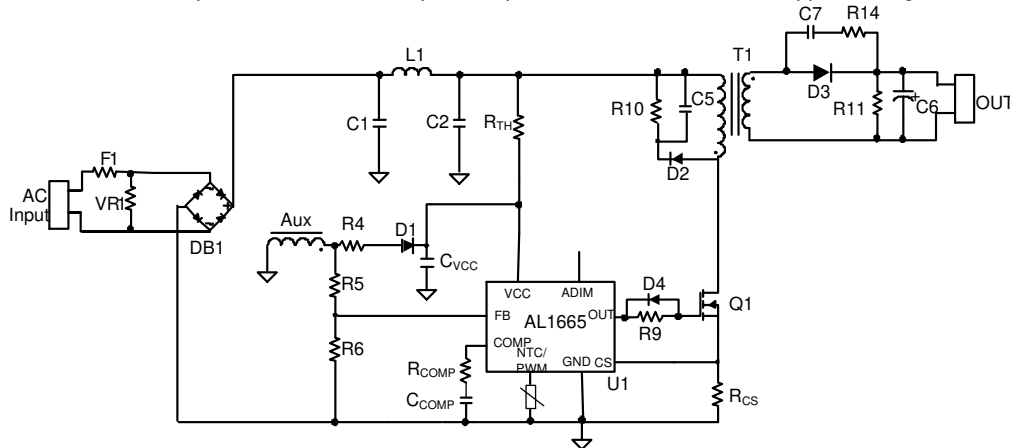
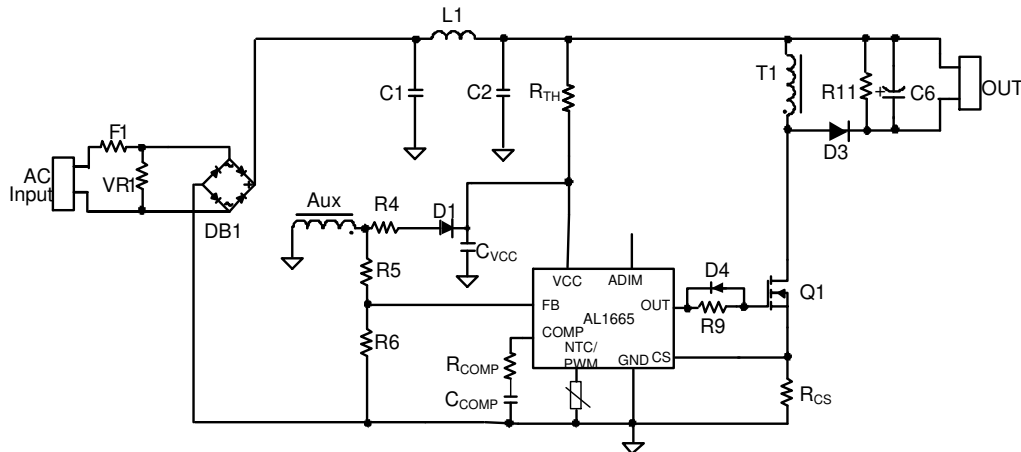

Figure 1. Flyback Application Circuit
Figure 2. Buck-Boost Application Circuit
Where V_{COMP_ST} is the pre-charged voltage of COMP pin. Figure 1 shows R_{COMP}.
- R5 and R6 shown in Figure 1 are divider resistors connected from the auxiliary winding
- R_{CS} is current sense resistor, which is shown as Figure 1
- R_{CS} is the current sense resistor, which is shown in Figure 1
- R_{CS} is the current sense resistor, which is shown as Figure 1 and Figure 2